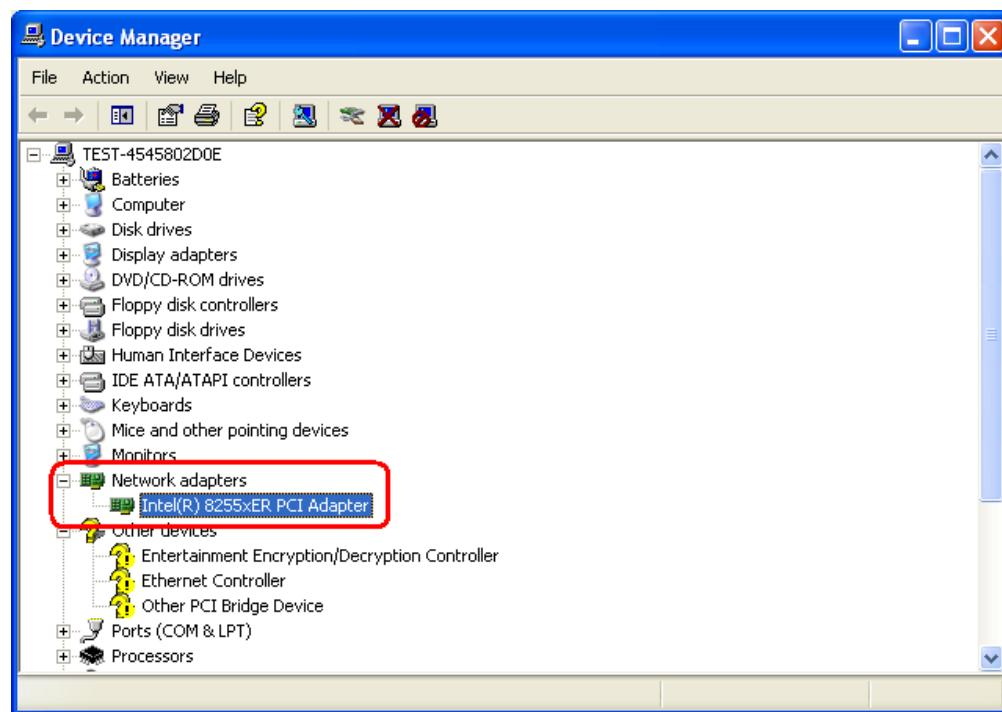

Figure 7-33: Device Manager Update
Step 59: The Device Manager refreshes and the Ethernet Driver can be seen in the Network Adapters option. See **Figure 7-33**.